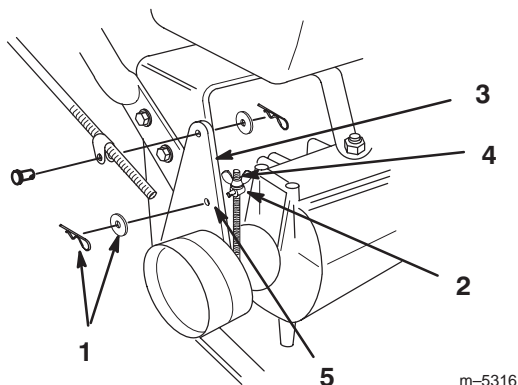

Figure 39
3. To adjust the brake remove the cotter pin and washer from the brake lever (Fig. 39).
4. Rotate the trunnion so it smoothly slides into brake lever hole **F** (Fig. 39). Tighten wing nut.
5. Secure trunnion to brake lever with washer and cotter pin (Fig. 39).